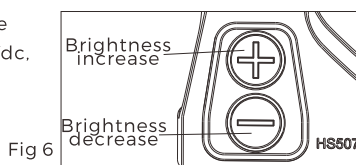

Fig 6
1. Switch on: Press and release either brightness button ("+" or "-") to turn on the sight, See Fig 6.